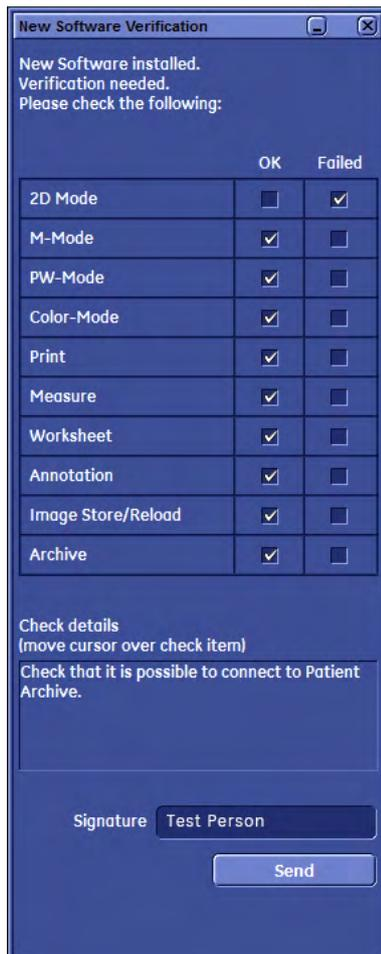

Figure 8-18 New Software Verification
20. When all features are **OK** enter your signature and then click **Send**; see: Figure 8-18 above.